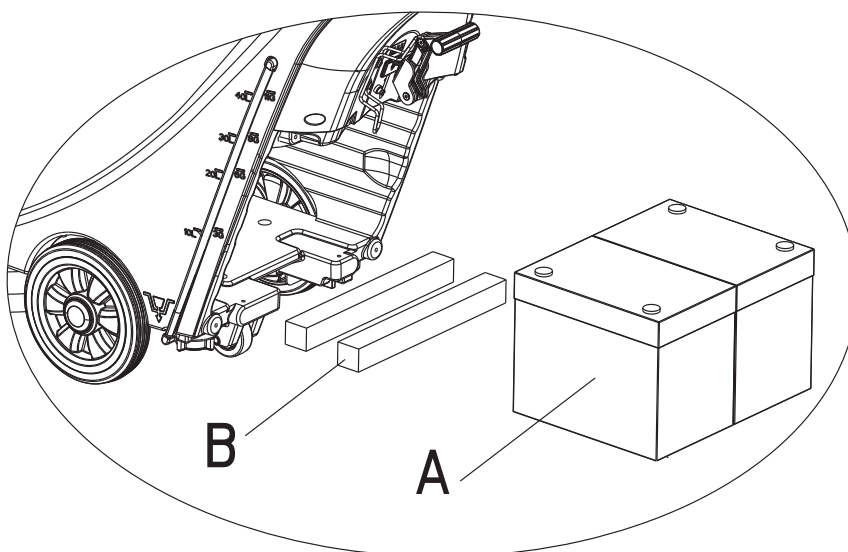

FIGURE 6
- 1) For battery with length below 270mm, use 2 pieces of the fixation board (B, Figure 6) and place them side by side inside the water tank battery;
- 2) For battery with length between 310mm-270mm, use 1 piece of the fixation board (B, Figure 6) and place it in the water tank battery;